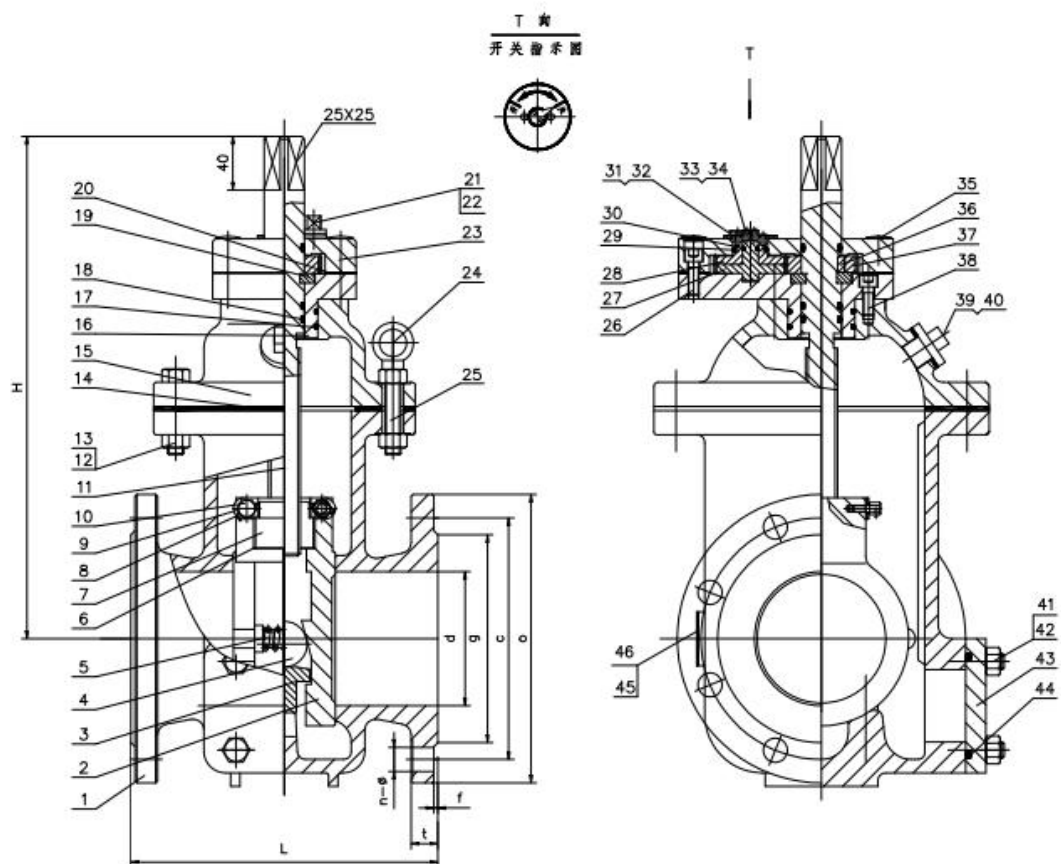

Figure 1 Manual Flanged Gas Gate Valve
3.1 The basic structure of the gas gate valve is shown in Figure 1.